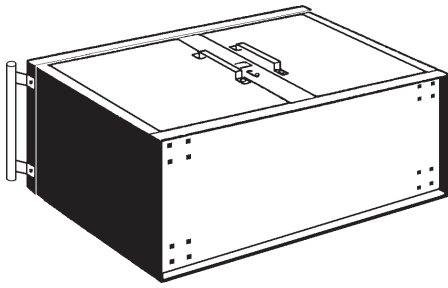
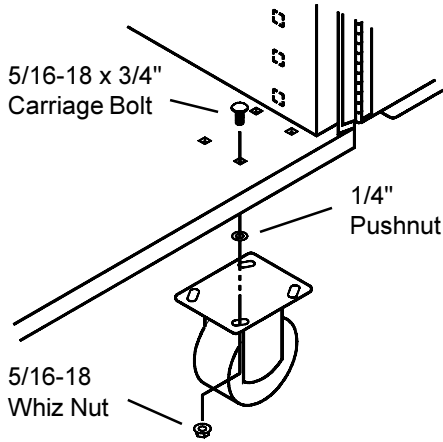

Figure 2. Caster Mounting Holes
Figure 3. Caster Mounting
2. Close the doors and lay the cabinet on it's back, onto the flattened shipping carton to prevent scratches (*Figure 2*). Mount the Swivel Casters on the end you mounted the Handle. Insert a Carriage bolt into a mounting hole, and push a Pushnut onto the bolt to hold it in place (*Figure 3*). Repeat this for the other three mounting bolts. Place the Caster over the bolts, then fasten with Whiz Nuts. Repeat this for the remaining Casters.